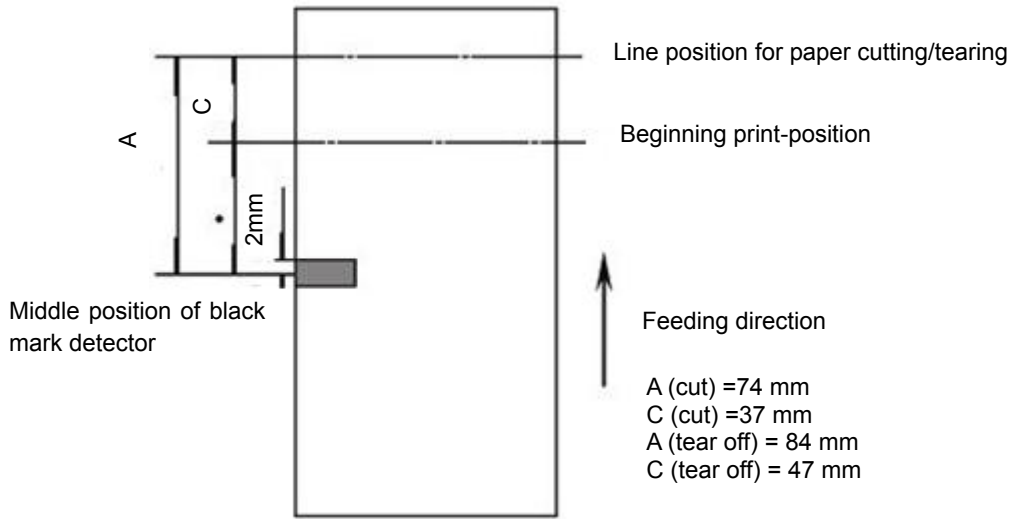

Figure 7-1
4. The inherent mechanical value of the printer: $L_0=A$ (mm) $Q_0=C$ (mm) (shown as figure 7-1).